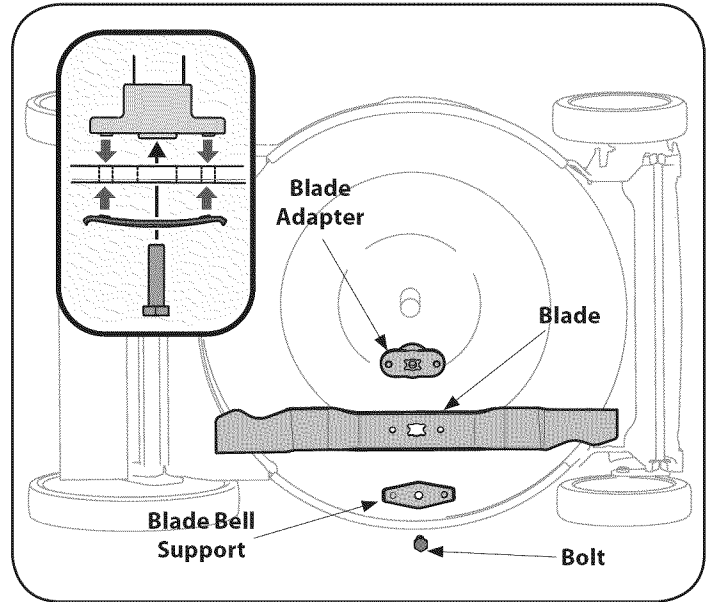

Figure 17
2. Remove the bolt and the blade bell support which hold the blade and the blade adapter to the engine crankshaft. See Figure 17.
5. Lubricate the engine crankshaft and the inner surface of the blade adapter with light oil. Slide the blade adapter onto the engine crankshaft. Place the blade on the adapter such that the side of the blade marked "Bottom" (or with part number) faces the ground when the mower is in the operating position. Make sure that the blade is aligned and seated on the blade adapter flanges. See Figure 17 inset.